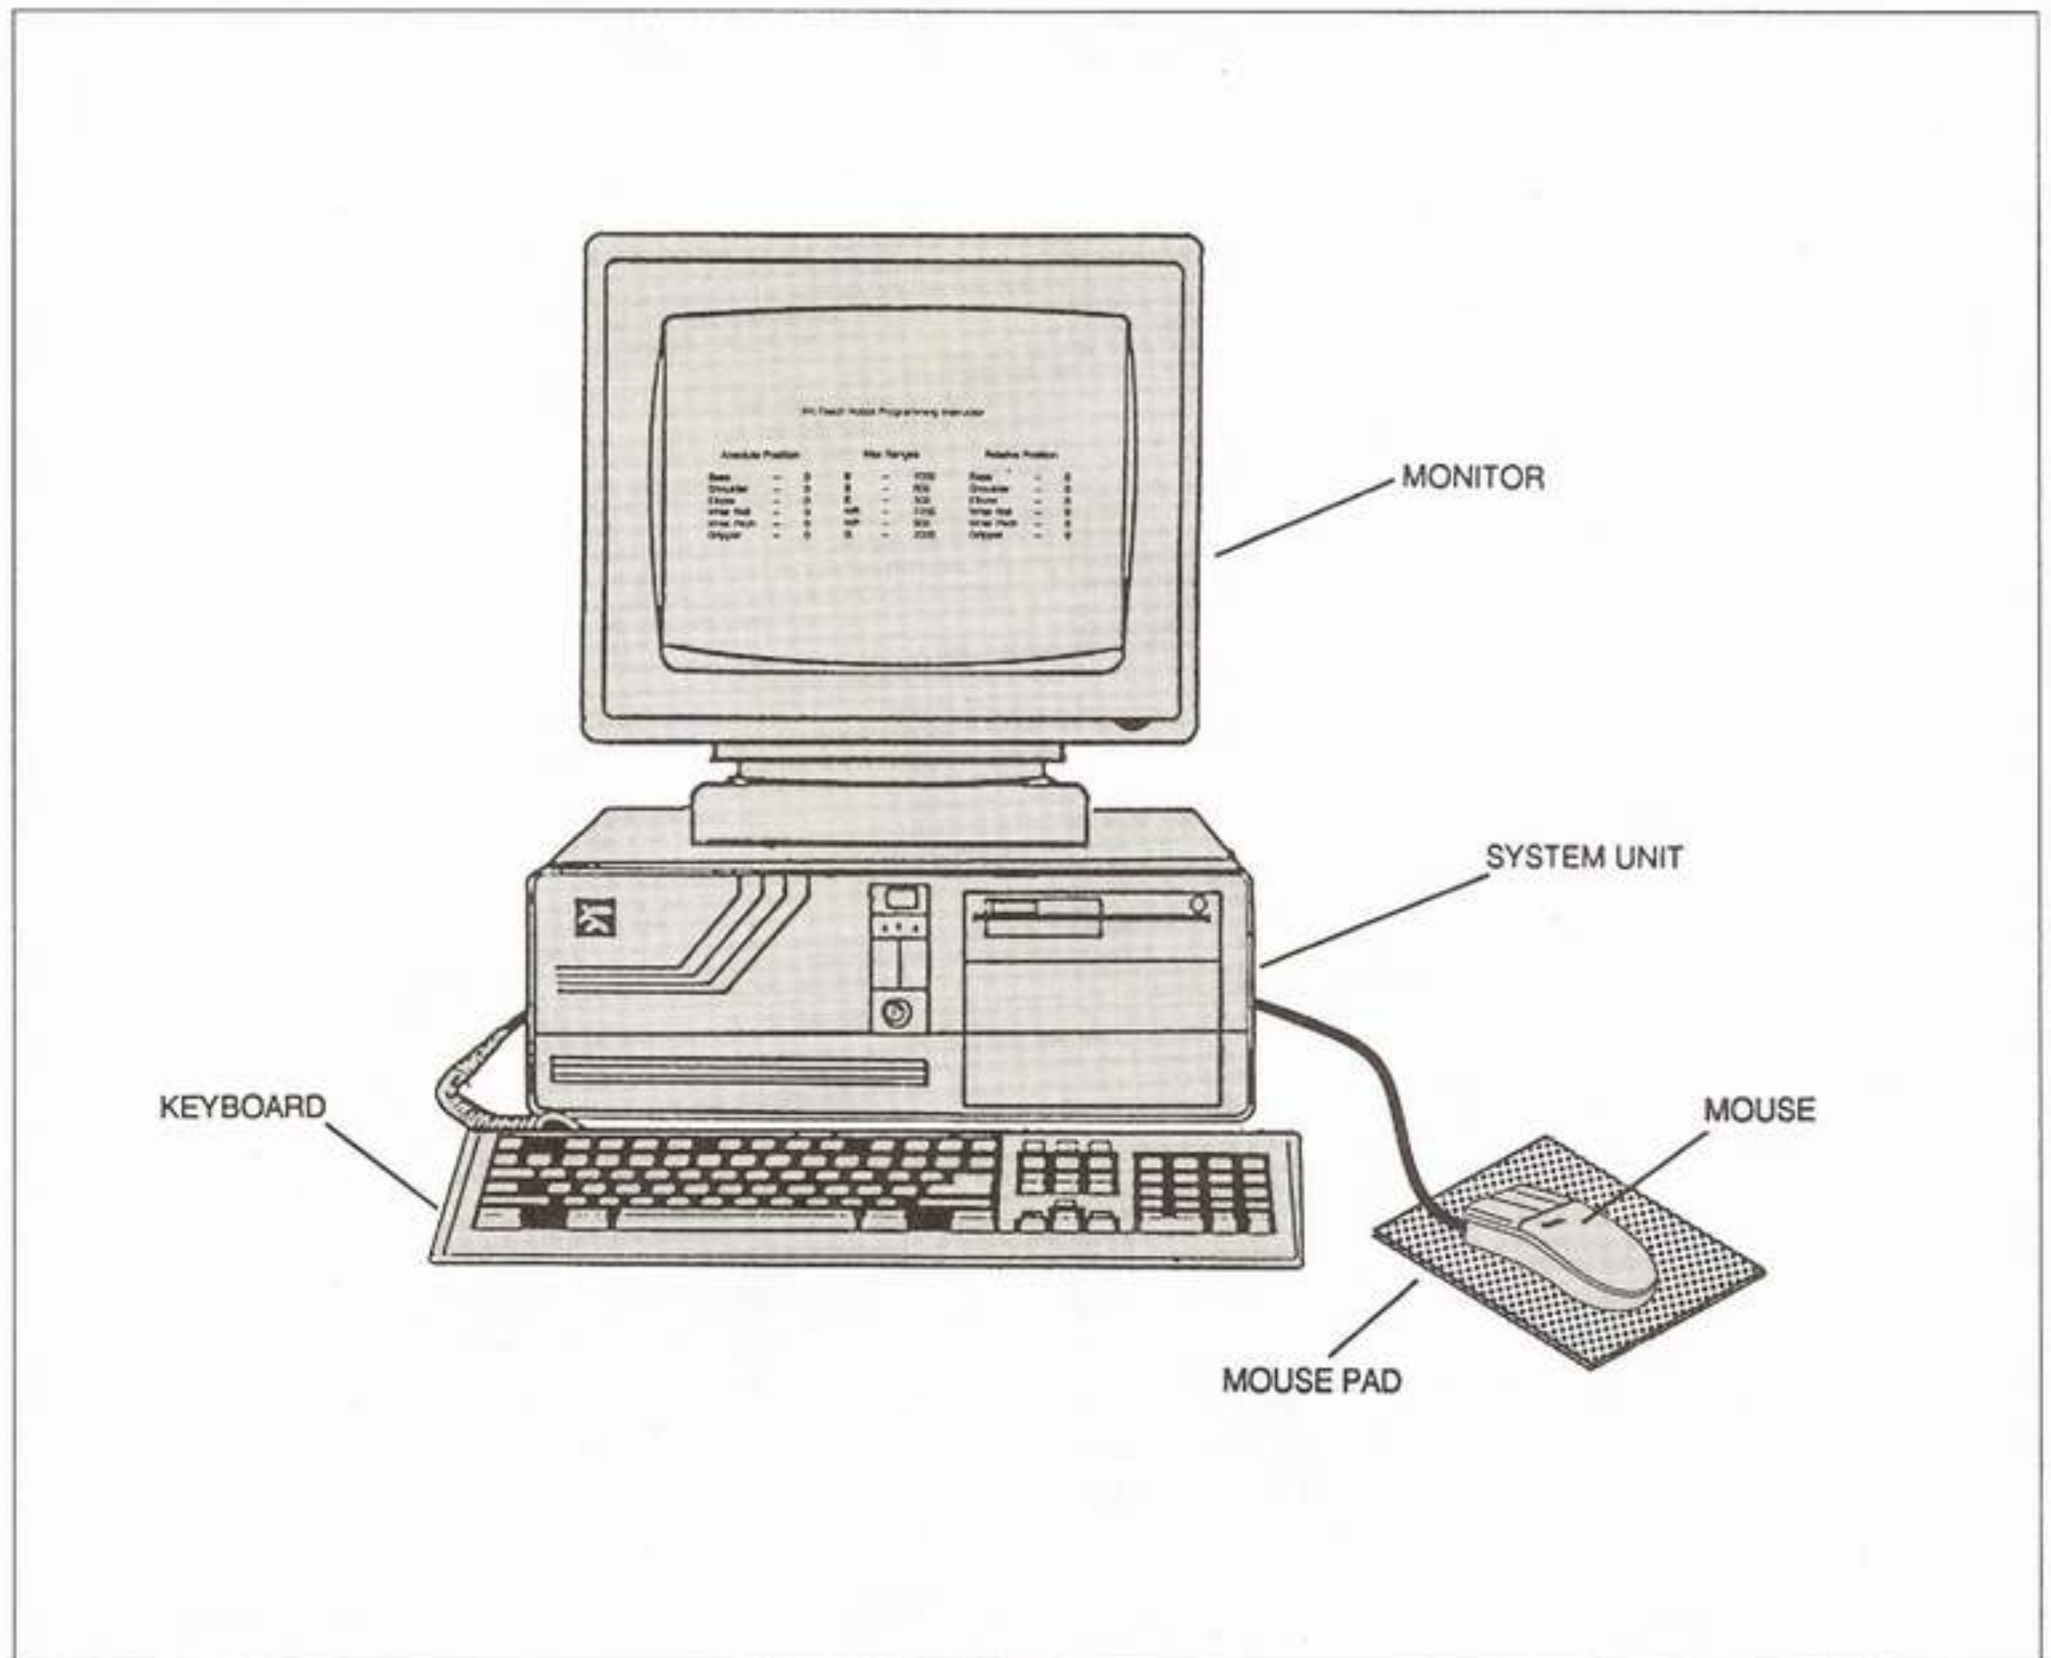

Fig. 11: The Mouse Installed
- ___ m. Place the mouse on the pad (or other suitable surface) where its operation will feel natural and comfortable, as shown in Fig. 11.